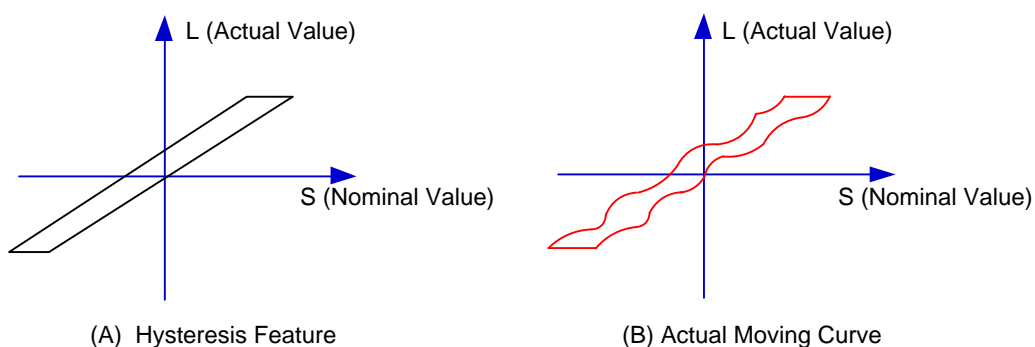

Fig. 3-34 Analysis of Backlash
Hysteresis feature is caused by forward and reverse clearance. Assume that driving shaft drives driven shaft in negative (CW) rotation, servo motor will be idling without moving worktable because of mechanical driving chain backlash, when the driving shaft suddenly begins CCW rotation (positive motion). After staying at a certain position for some time, the worktable will move backward with the driving shaft; when the direction of the driving shaft changes again, the situation is the same, which is called Hysteresis. If pitch error doesn't exist, under ideal condition, the moving curve of worktable is shown in Fig. 3-34(A), in which the curve of horizontal section is during the idling of servo motor without worktable movement. The actual moving curve of worktable is shown in Fig. 3-34(B).